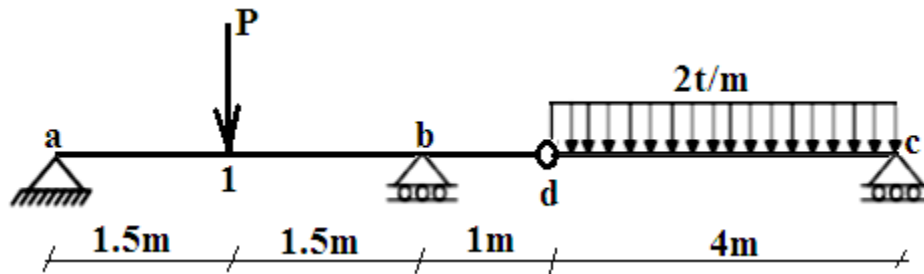

Fig. 3.46.a
For the given compound beam in Fig. 3.46, conclude the applied load (P) to give negative moment at support b equals the maximum positive moment in span a-b.